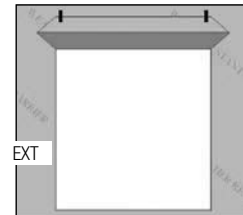

FIG. 3
- From the exterior, cut the top of the WRB as shown to form a flap. (Fig. 3)
- Temporarily tape this top flap up. (Fig. 3)